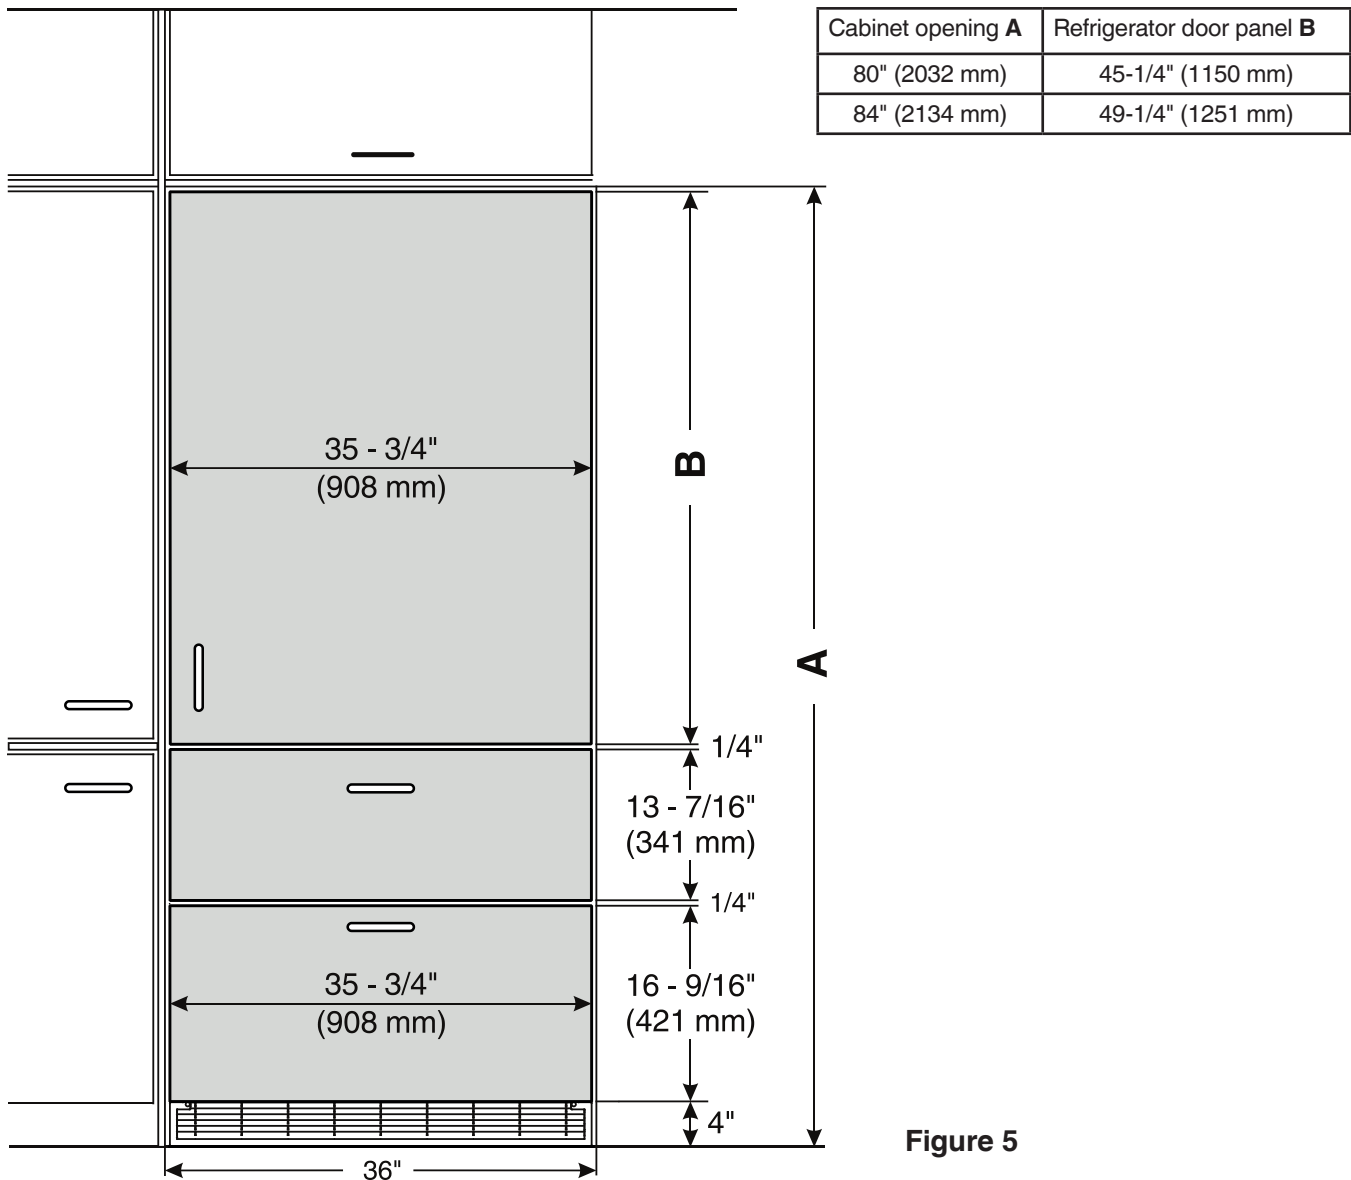

Figure 5
## Panel Dimensions - Inset Installation Style - Figure 5
2. Drill a 3/8" diameter hole in any position as shown in Figure 5 using a carbide drill bit.